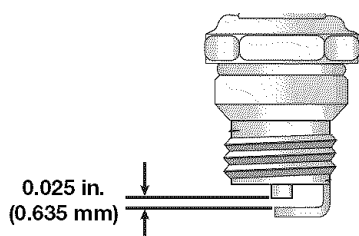

Fig. 19
3. Replace a cracked, fouled or dirty spark plug. Set the air gap at **0.025 in. (0.635 mm)** using a feeler gauge (Fig. 19).